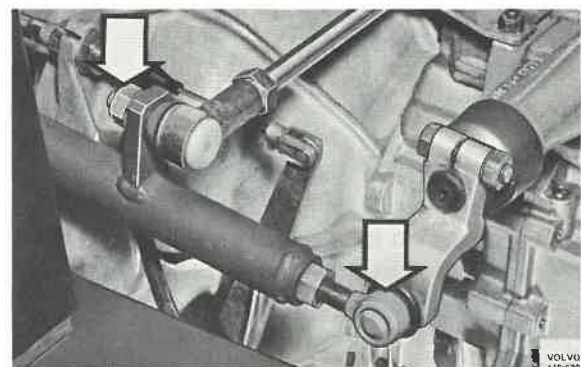

Fig. 33-4. Removing gear lever control ball joints
2. Remove the gear lever control ball joints from the gearbox and lift up the control tube, see Fig. 33-4.